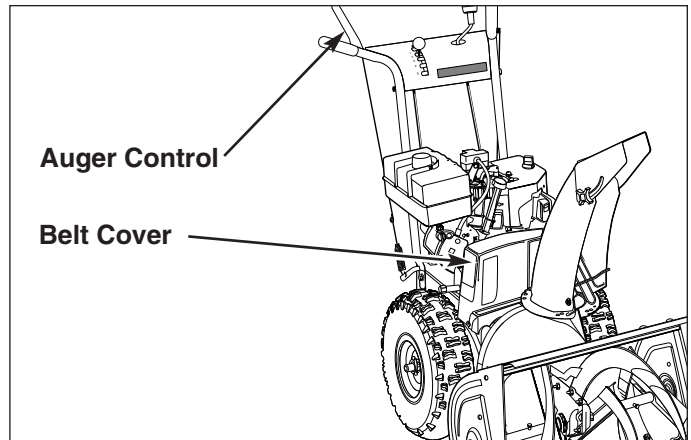

Figure 25. Auger Control and Belt Cover Location
5. Loosen the belt cover screws and remove the belt cover (Figure 25)
3. Remove belt cover (See Figure 25).